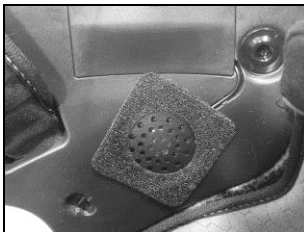

Fig. 12
- Position the left loudspeaker in its seat, inserting the cable in the special groove. If necessary, secure the earphone using the adhesive supplied as standard equipment (Fig. 12).